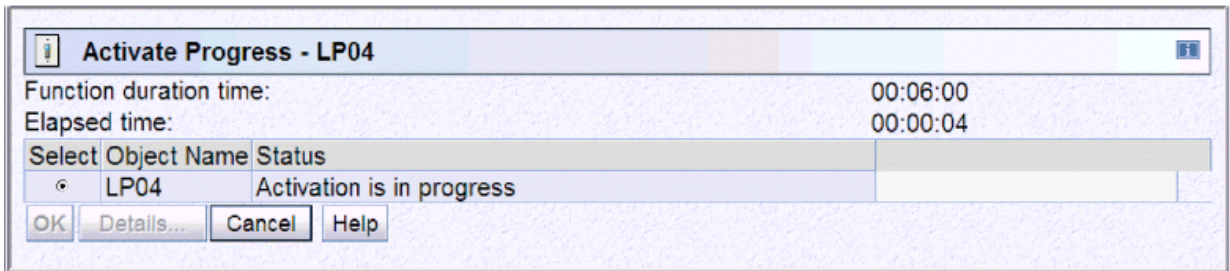

Figure 13. Activate Progress window
**Note:** To use the stand-alone IOCP on a coupling facility, perform a power-on reset with the Diagnostic IOCDs (DO) and activate a logical partition. IOCP can run only in a logical partition activated for **ESA/390** mode for a z13 and prior CPCs or **General** mode for a z14 or later.
3. In the Activate Task Confirmation window, click **Yes**. This action displays the Activate Progress window. Figure 13 on page 9 shows this window.